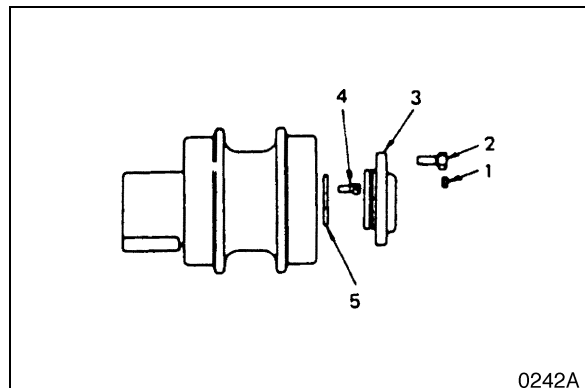

Figure 41
2. Remove the bolts and cover (3, Figure 41). Detach bolts (4) and washer (5).